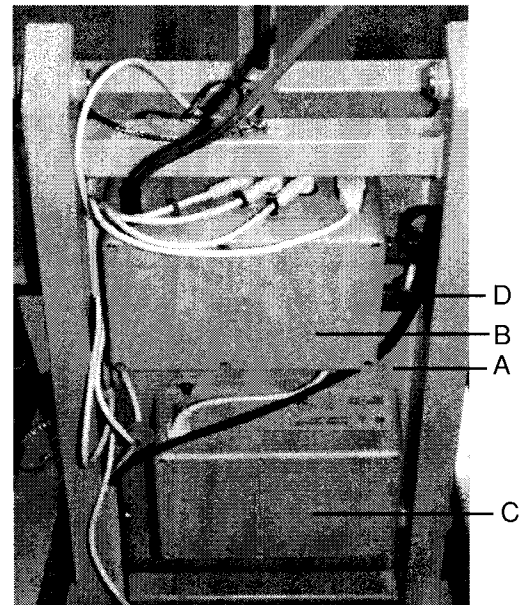

Figure 1
- 5 Remove the 4 clips securing the cover plate (A) of the power unit (B) and the battery (C) (refer to figure 1).
- 6 Slightly raise the cover plate of the power unit and battery to gain access to the battery connector (D) on the right-hand side of the bed (refer to figure 1), then unscrew the screw securing the connector (D) by using the small flat blade screwdriver.